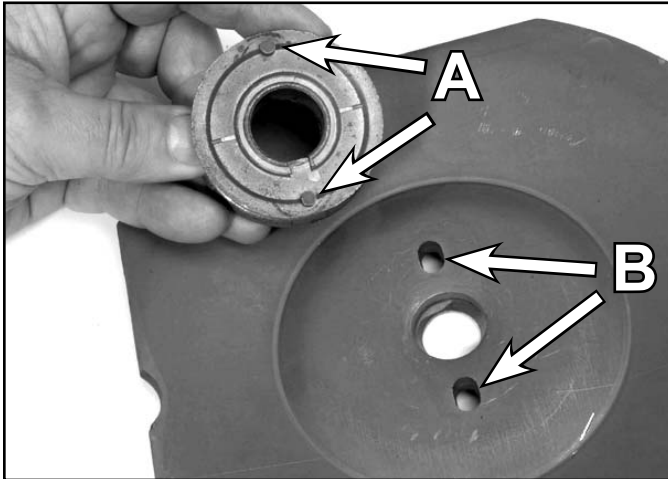

Fig 193
1. Start by installing the key and self-propel pulley. The two bumps on the pulley should face you (Fig. 193). Slip the belt over the pulley.